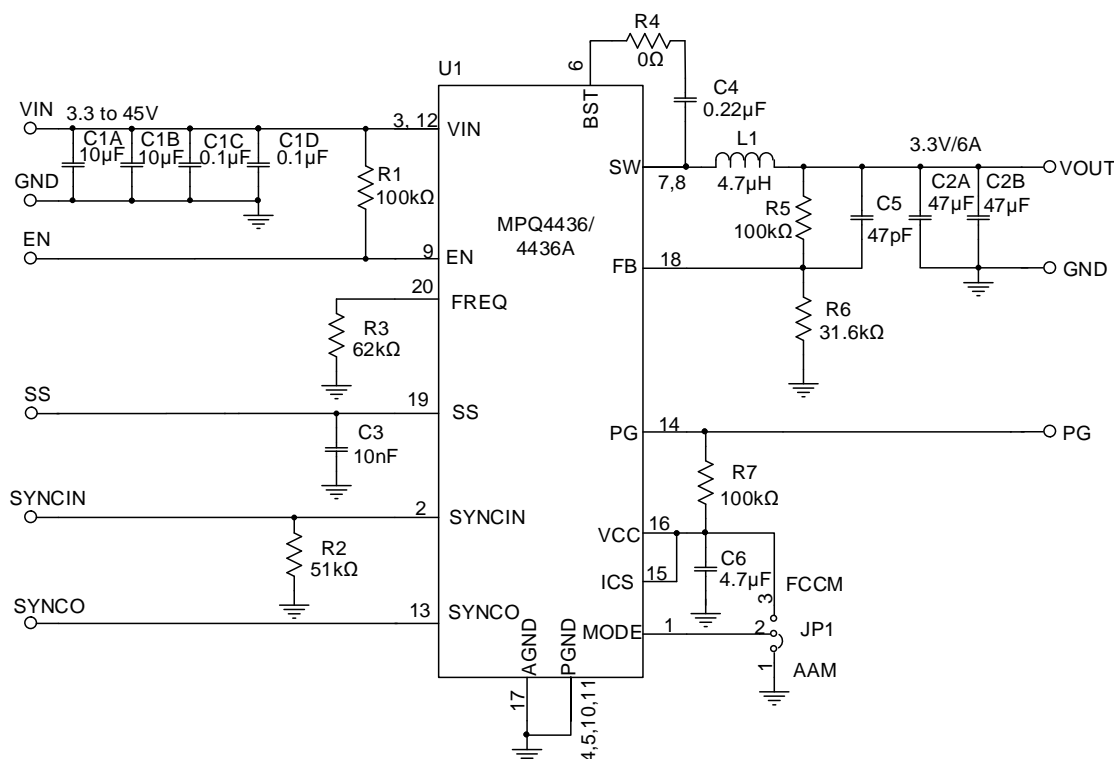

Figure 12: Single-Phase, $V_{OUT} = 3.3V$, $f_{sw} = 470kHz$
- 7) The recommended PCB layout is based on Figure 12.